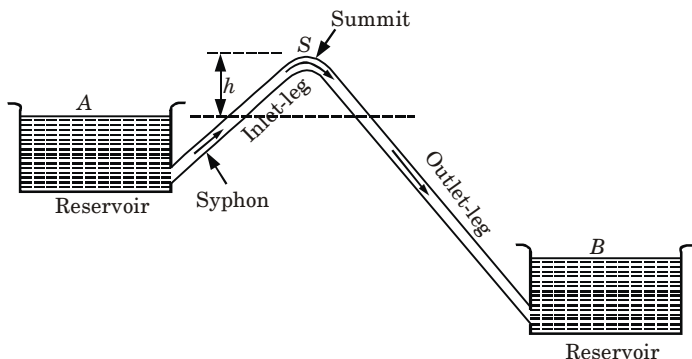

Fig. 3.17.1.
1. Syphon is a long bent pipe employed for carrying water from a reservoir at a higher elevation to another reservoir to a lower elevation when the two reservoirs are separated by a hill or high level ground in between as shown in Fig. 3.17.1